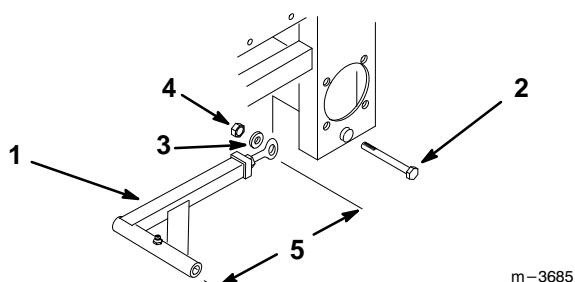

Figure 8
1. Check length of strut, adjust to 15" if required (Fig. 8).
2. Attach left and right struts, with greases fitting up. Secure inside of rear frame member with 5/8-11 x 5" (127 mm) bolts, 5/8" lock washers and 5/8-11 nuts (Fig. 8).